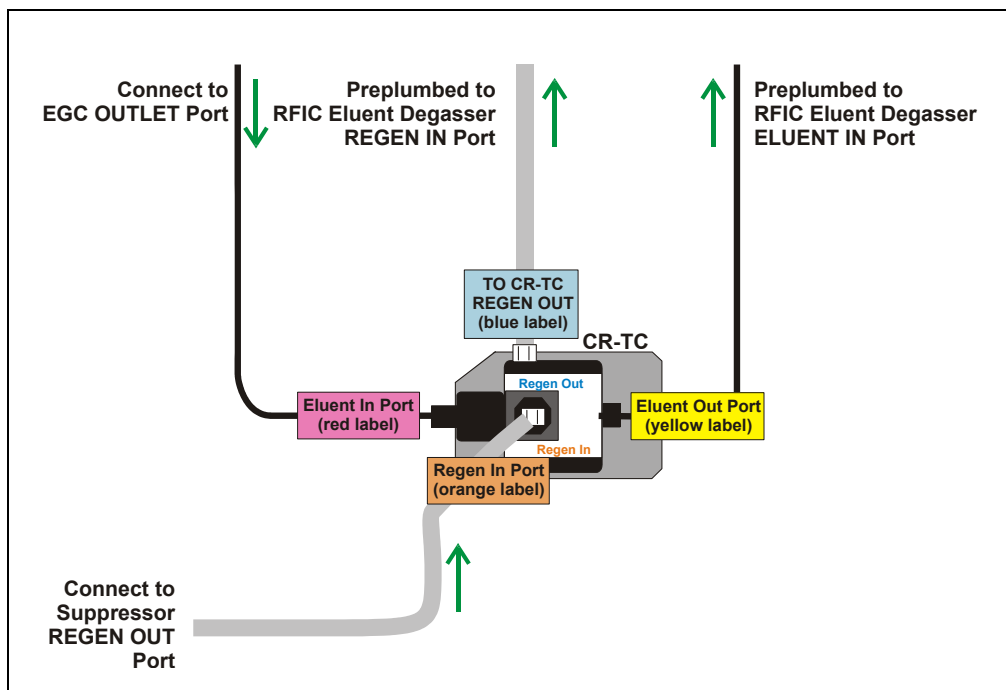

Figure 9-19. CR-TC Plumbing Diagram: Installation Completed
5. Refer to Figure 9-19 to plumb the four ports on the new CR-TC.